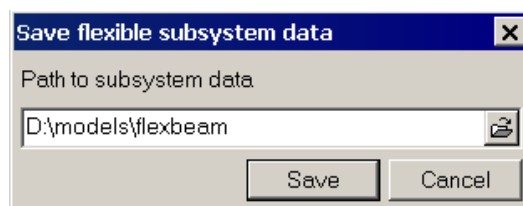

Figure 1.12.
13. Click the **Save as** button. In the dialog set **Path to subsystem data** and click the **Save** button, see Figure 1.12. Please, note, that the latter directory will further serve as a subsystem name.